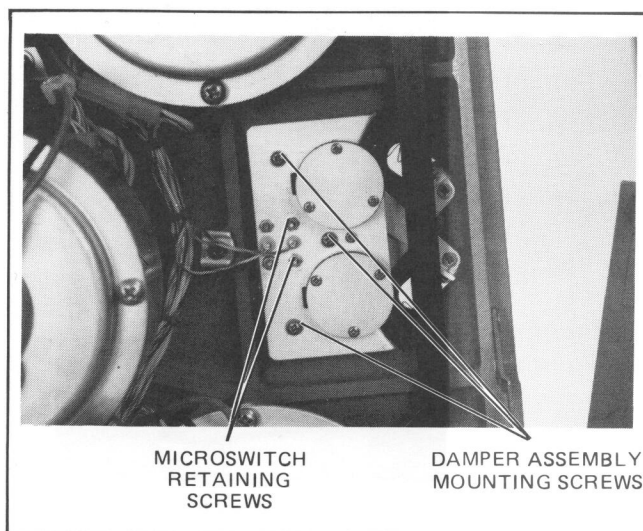

Figure 5-26. End-Of-Tape Switch Adjustment
k. If correct clearances were not obtainable in step i., loosen the microswitch retaining screws of the switch nearest to the damper of the end of tape which needs adjustment (see Figure 5-26).